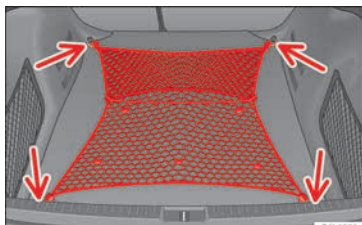

Fig. 158 Stretched luggage net.
- Secure the luggage net to the four fastening rings » Fig. 158 (arrows).